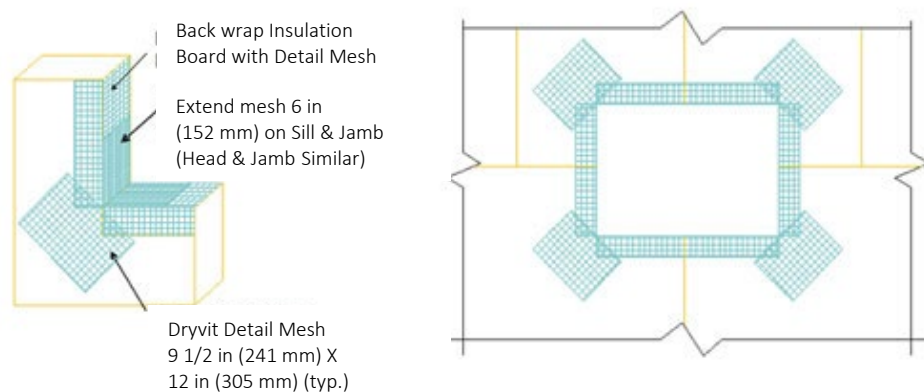

Fig. 21
20. Corners of all openings such as windows, doors, mechanical equipment and all penetrations shall be reinforced with Detail Mesh placed diagonally to the opening as illustrated in Figure 21.